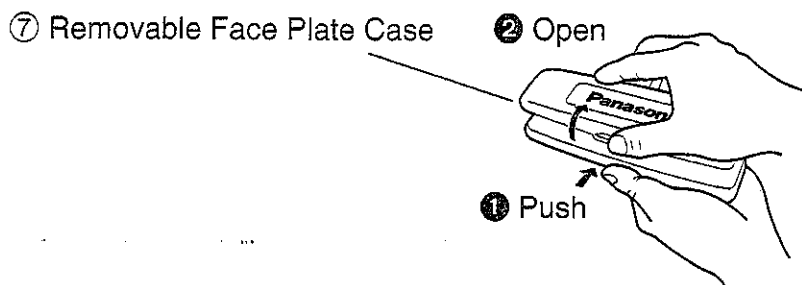

Fig. 6
- ④ As shown in Fig. 6, gently push the lower side of the case and open its cover. Keep the removable face plate in the case. Then you can safely take the plate with you.